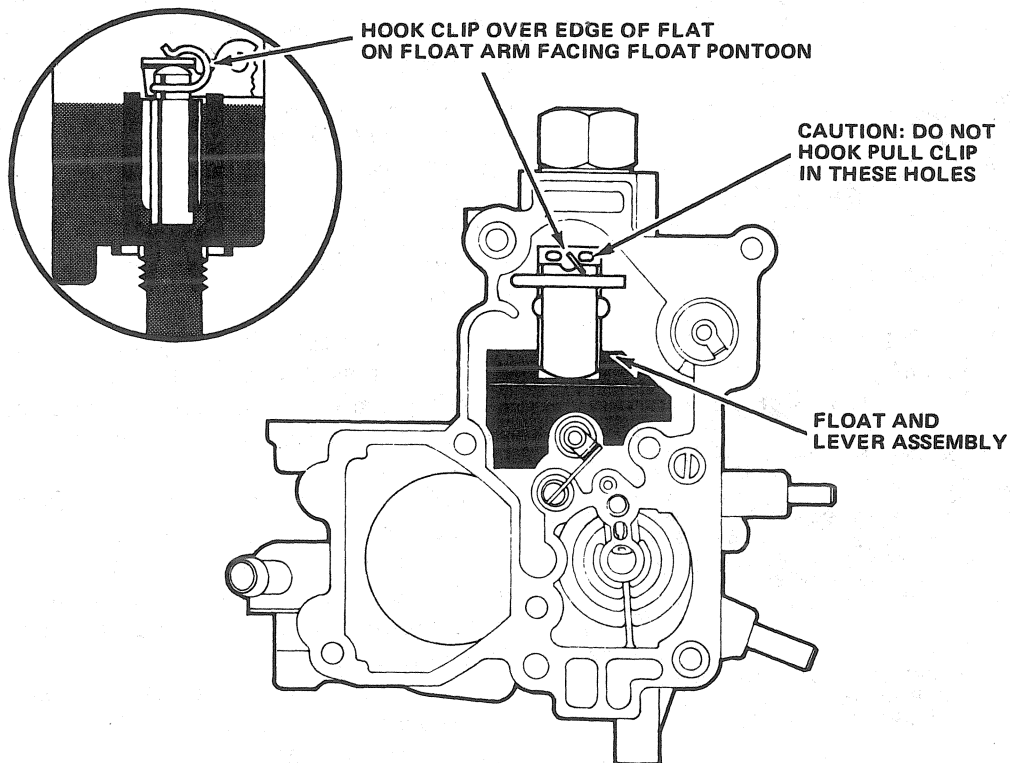

Fig. 1J-46 Model 2SE Carburetor—Float Needle Pull Clip Location
(1) Install slow idle speed screw and spring, if removed, in throttle body (fig. 1J-43).
(2) If removed, install fast idle adjustment screw and clip in primary throttle lever (fig. 1J-43).